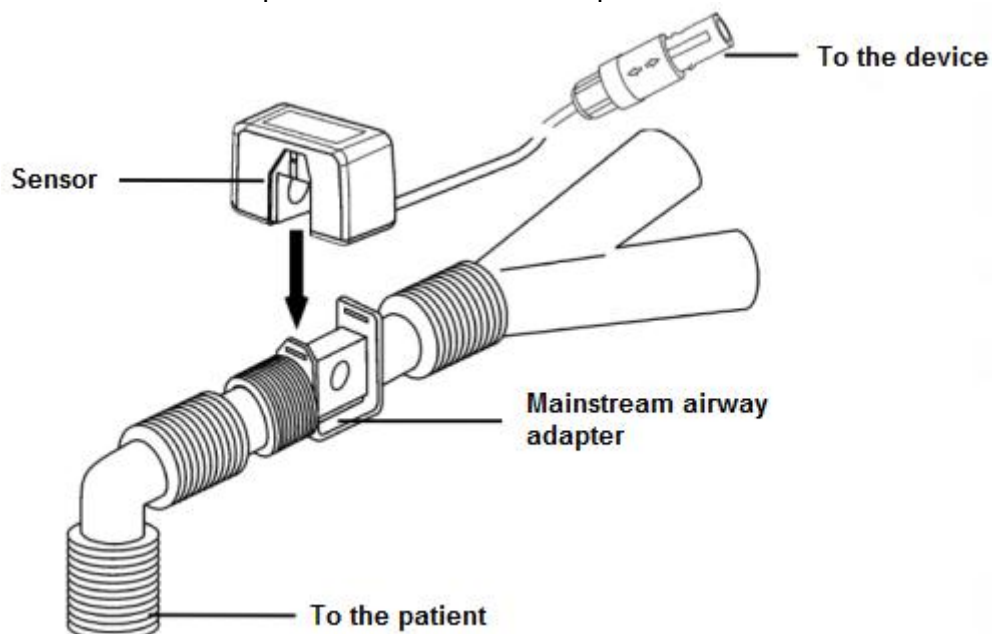

Figure 5.4 – Connection of the mainstream capnometer to breathing circuit
- Insert the airway adapter between the elbow and tee of the ventilator circuit according to the scheme in Figure 5.4. It is recommended to connect the airway adapter directly or as close to the endotracheal tube as possible to reduce dead space.